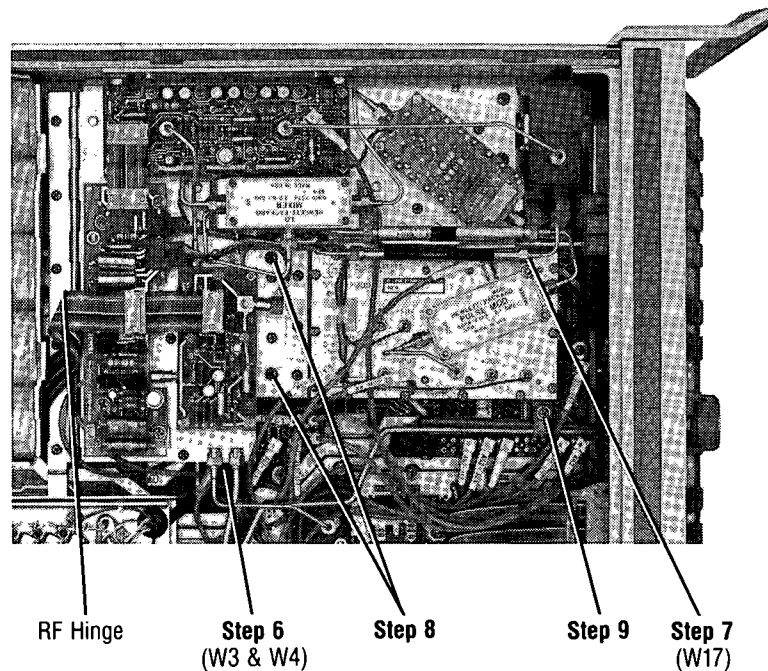
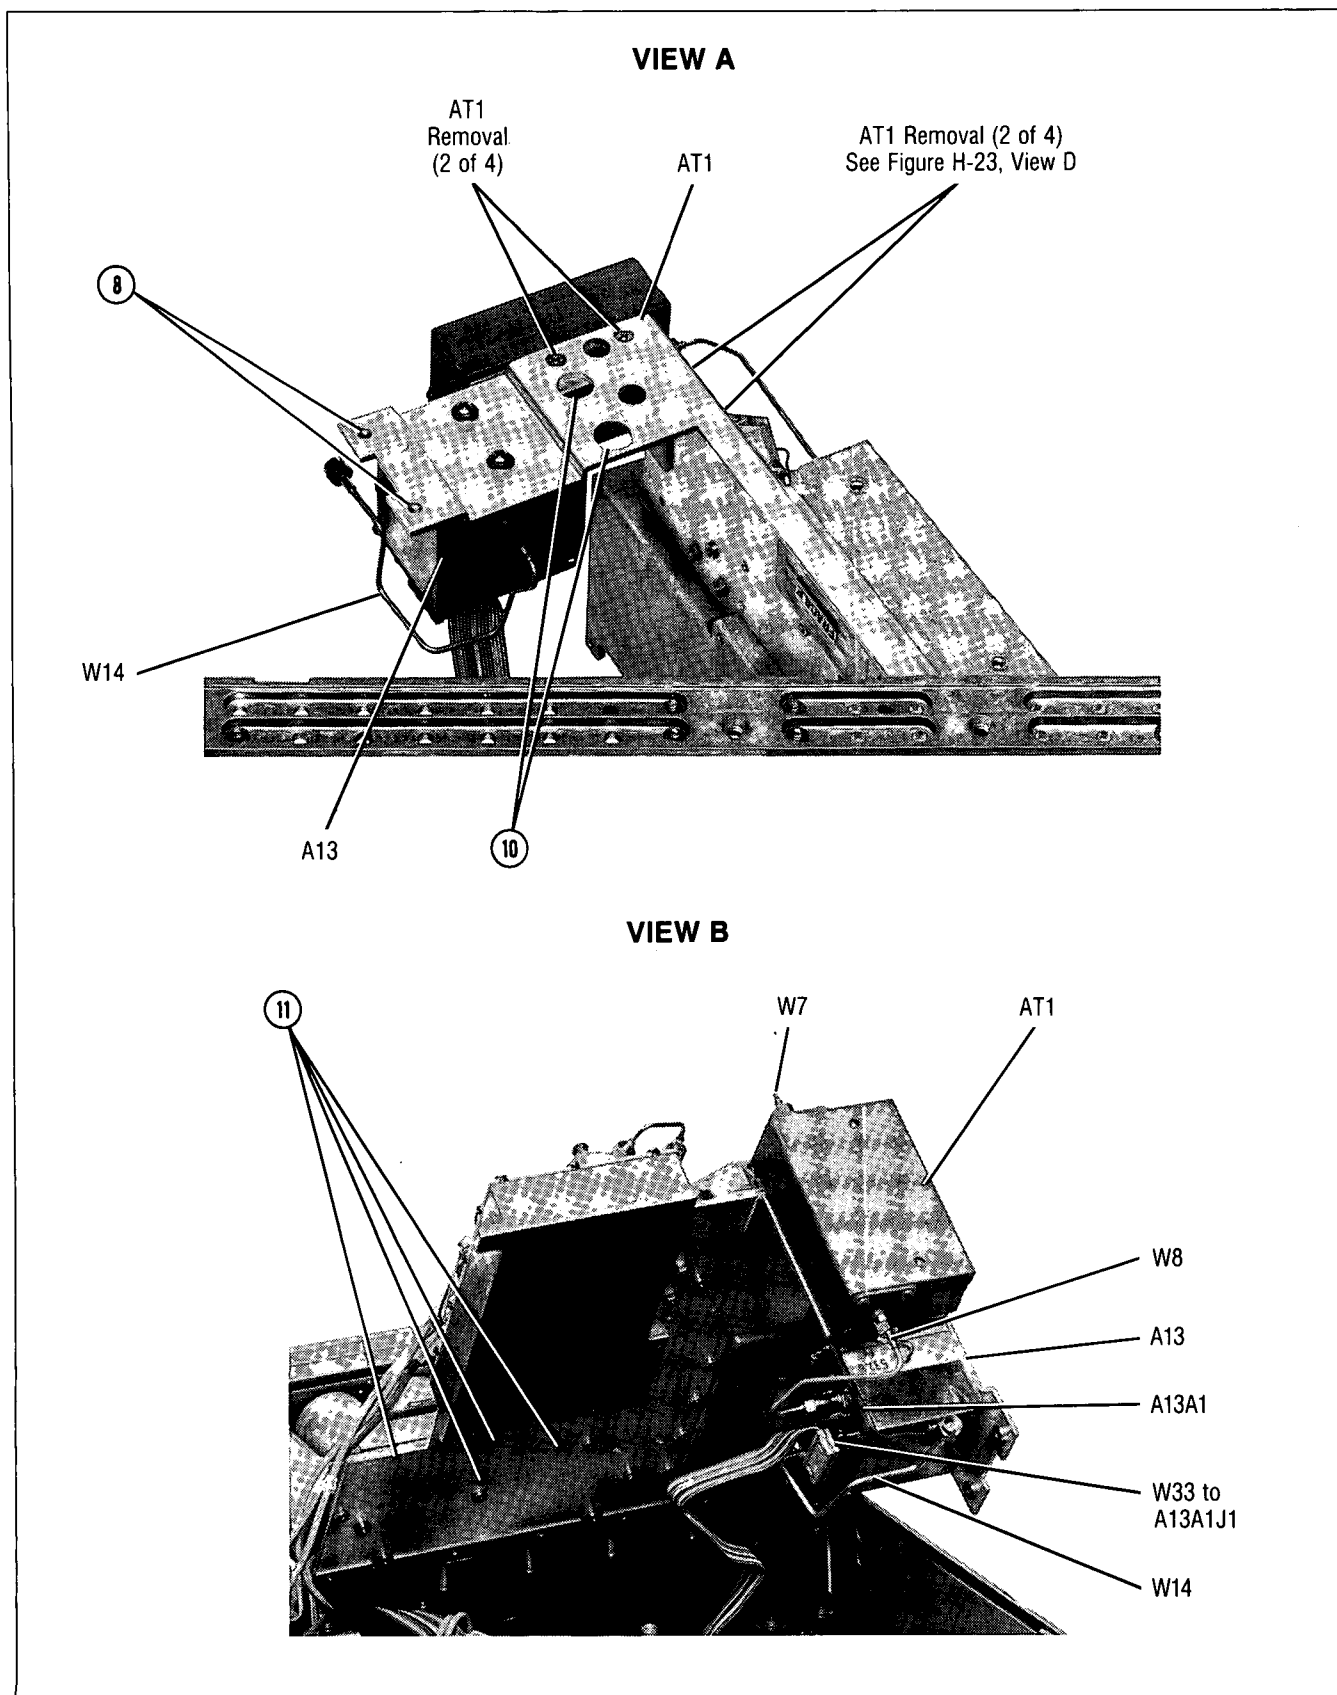

Figure H-24
Figure H-26. A13, A13A1, A16, A18, and AT1 Assemblies, Cables, and Mounting Hardware Location
Refer to Figure H-24, Figure H-25, and Figure H-26 for related assemblies, cables, and mounting hardware locations.
1. Using the Hinged RF Deck Access Procedure, Figure H-24, open the hinged RF deck assembly.